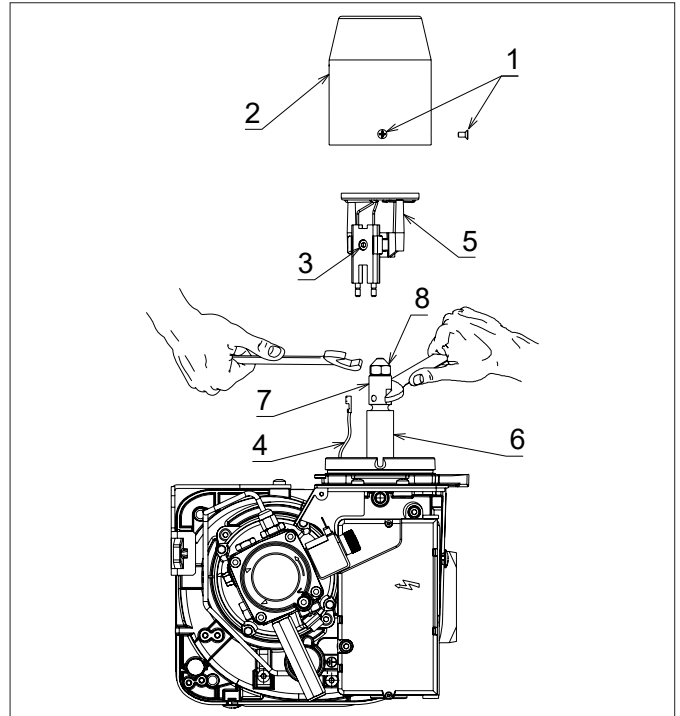

Figure 10-3: Burner head, recirculation tube (if fitted) diffuser and nozzle holder
2. Remove the burner head. Refer to Figure 10-3. Loosen the three fixing screws (1) and remove head (2) from burner.
6. Re-fit the diffuser/electrode assembly. Refer to Figure 10-3.
- Reconnect ignition leads (4) to electrodes.
- Re-fit the diffuser/electrode assembly (5) onto the nozzle holder lining up the fixing screw with the recess in the nozzle holder.
- Tighten the fixing screw (3) to secure the diffuser/electrode assembly in place on the nozzle holder.
8. Re-fit the burner head. Refer to Figure 10-3.
- Locate the head fixing screws (5) in the countersunk slots in the burner collar.
- Tighten the two screws (1) to secure the head (2) in position on the burner.